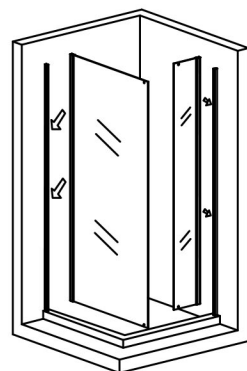

Fig.3
2. (Fig.3) Insert fixed glass panel A and fixed glass panel B into mounted wall channels.